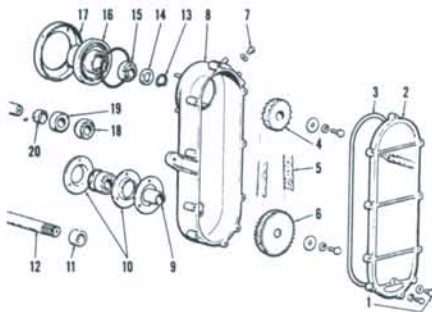

Fig. 1—Exploded view of "CHAPARRAL" chain case used on 1971 models and 1972 SKYLARK. 1970 model chaincase is similar.
On late models with "Chaparral" gearcase, check fluid level at plug (1—Fig. 1) and fill to level of plug opening at upper plug (7). Use automatic transmission fluid, type A.
On 1970 and 1971 machines and 1972 Skylark, upper shaft housing (16—Fig. 1) is secured in chain case by clamp ring (17) but housing is not slotted and no inspection cover is provided. Loosen clamp screws and turn housing to reduce backlash to a minimum, then retighten nuts. Backlash can be measured at pulley rim.